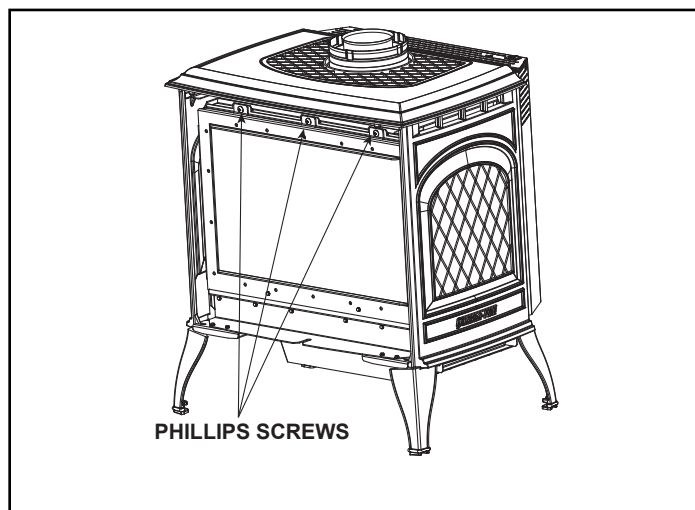

Figure 4.2 Remove Glass Frame
- Remove glass from appliance. Figure 4.2.